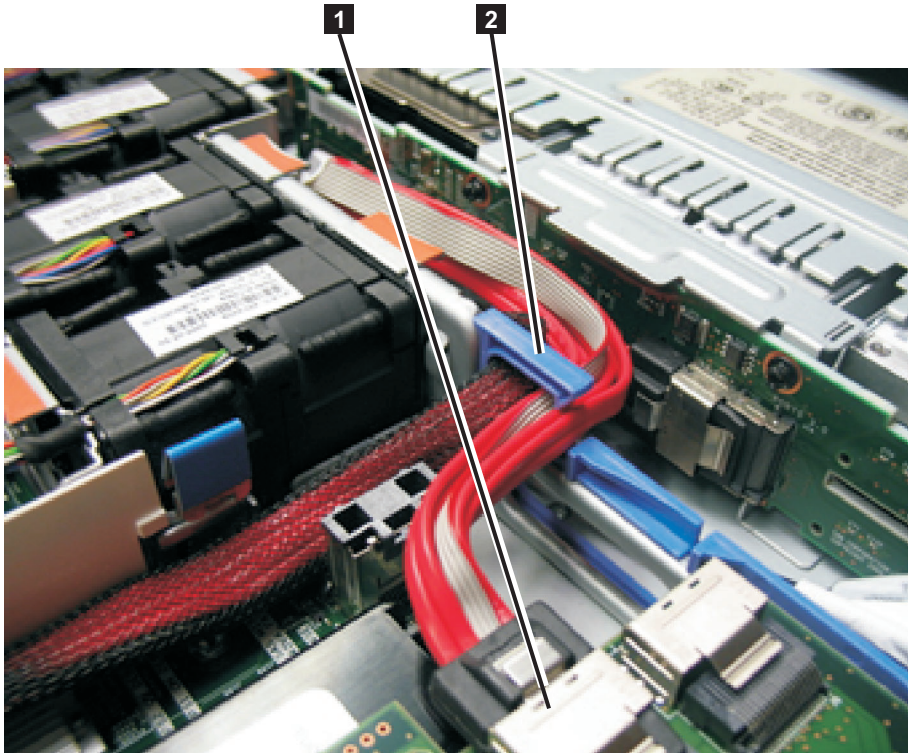

Figure 126. Boot-disk SAS cable routed through the blue bulkhead clip and connected to the SAS disk controller in the SAN Volume Controller 2145-CF8
- The boot-drive cable and the high-speed SAS-adapter cable are shown in Figure 126 on page 123.